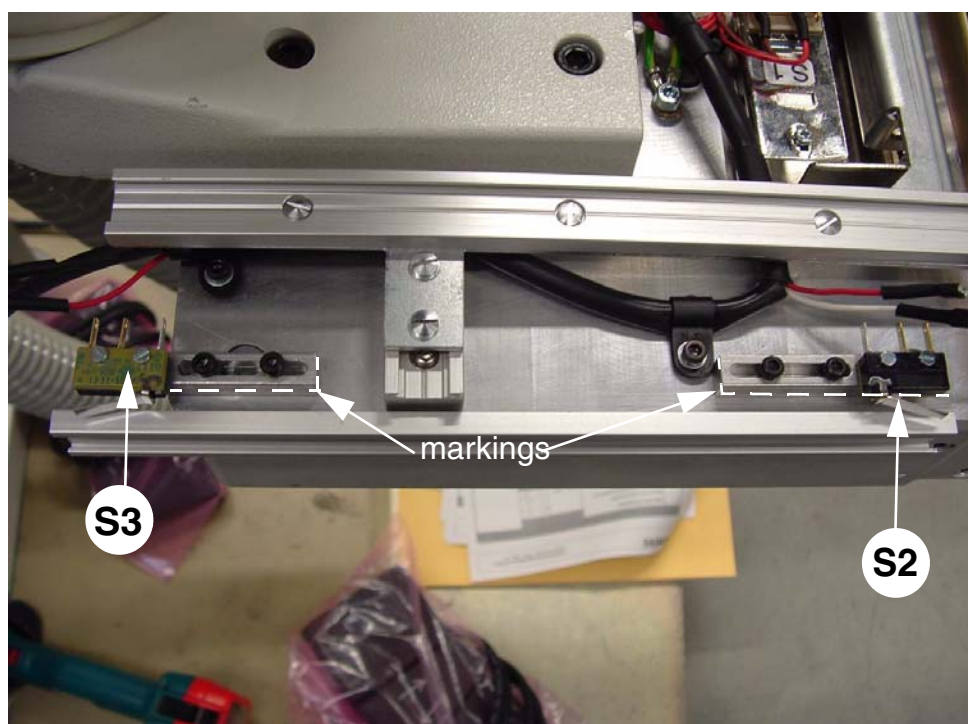

Fig. 8 Micro switch installation
1. Mount the micro switches S2 and S3 (Fig. 8) along the markings.